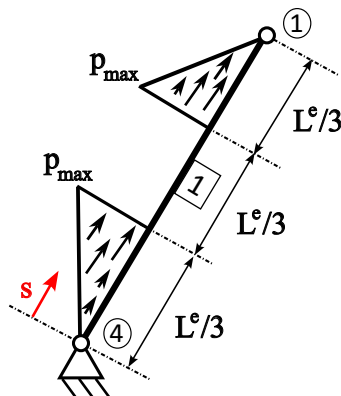

Fig. 4: Partial Load on Element 1
The nodal force  $F^*$ , acting in the x-z plane, is applied at node ① in x- and z-direction with an angle  $\alpha$ . Furthermore, the partial linear load  $p_l(s)$  acts on element ①. The load is acting on the first and last third of the truss element and its magnitude increases from 0 to  $p_{max}$  (first third) and decreases from  $p_{max}$  to 0 (last third), see Fig. 4.